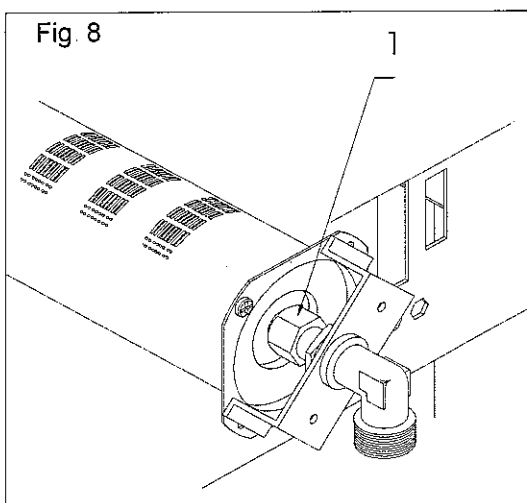

Fig 8
- Gain access to the burner and unscrew nozzle 1 to be replaced (Fig. 8) using the correct screwdriver;